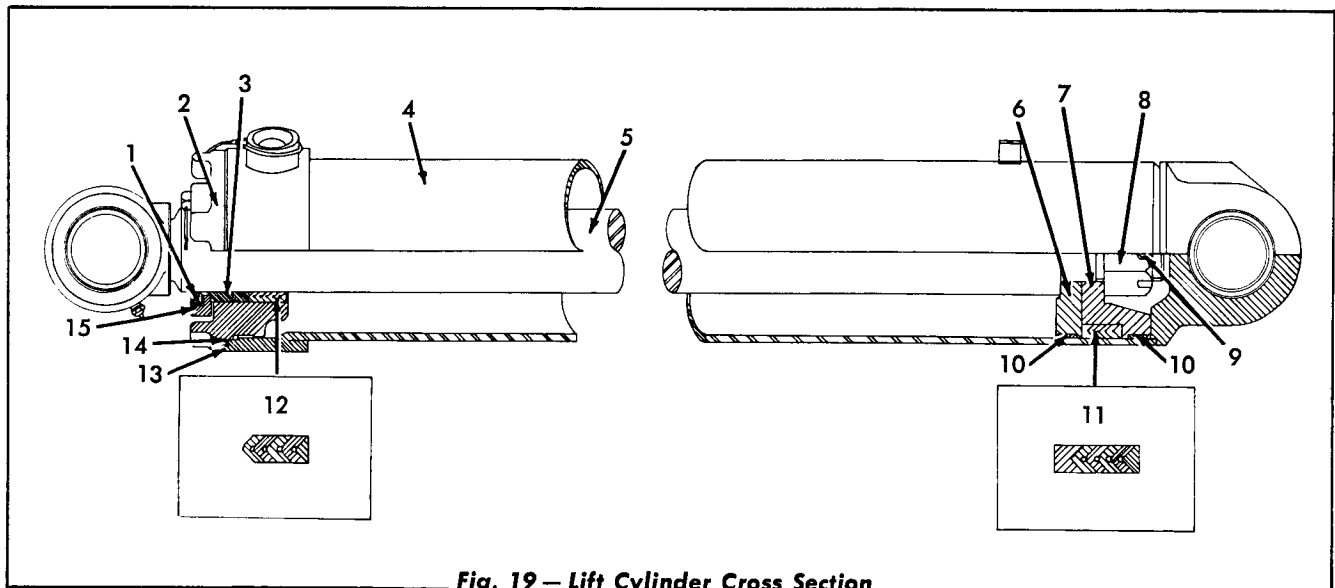

Fig. 19 — Lift Cylinder Cross Section
(4) packing rings, top and bottom adapter rings and the bearing rings from the piston.
5. Install a new packing set (having a free stacking height of $1\frac{15}{32}'' + \frac{1}{32}'' - 0$) in the lift cylinder or a new packing set (having a free stacking height of $1\frac{15}{32}'' + \frac{1}{32}'' - 0$) in the dump cylinder. Shim rings are available to attain these stacking heights if necessary. Refer to Figs. 19 and 20 for direction and order of assembly of piston packing rings.